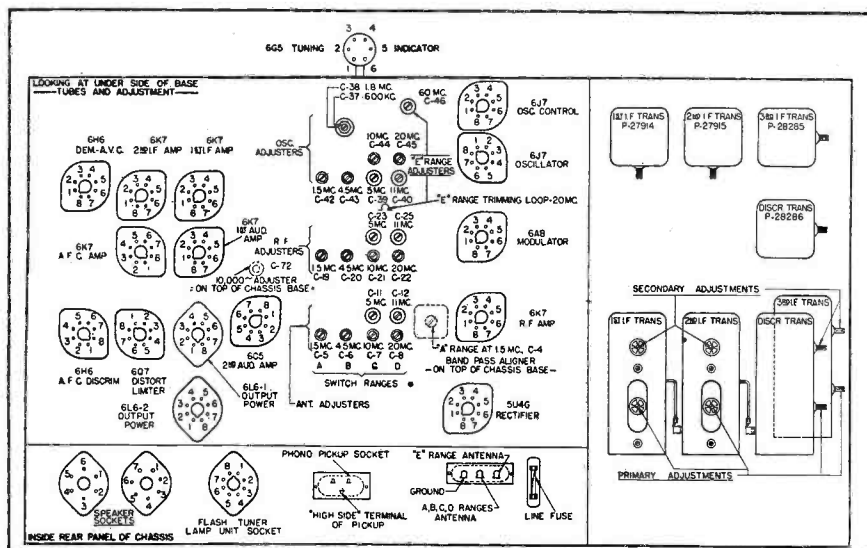

Fig. 1. Terminal layout and location of various alignment adjustments.
Before proceeding with the alignment of any circuits in these receivers, except when specially directed, be sure that the fidelity control knob is set for the "Normal" position and that the automatic frequency control knob is set to the "Off" position. The "Off-On-Bass-Phonograph" control should also be set for the "Normal" position. In making any alignment adjustments always adjust the test oscillator's output voltage to the minimum value where a good alignment may still be obtained, except when specifically directed in these instructions. Fig. 1, shows the location of all the aligning capacitors or adjustments for these receivers. It will not be necessary to remove the chassis from its cabinet in order to make any
3. Now, noting from Fig. 1, the alignment adjustments for the i-f circuits proceed in the following order: